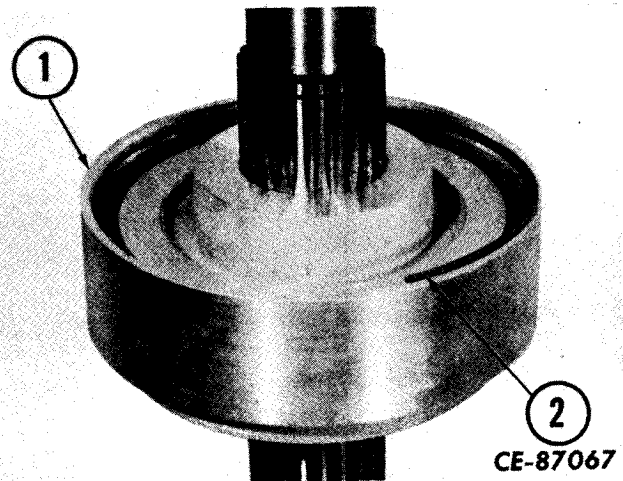

Figure 4-99
Install special snap ring groove filler (2, Fig. 4-99) (refer to "SPECIAL TOOLS") with narrow face down in piston housing (1) snap ring groove.